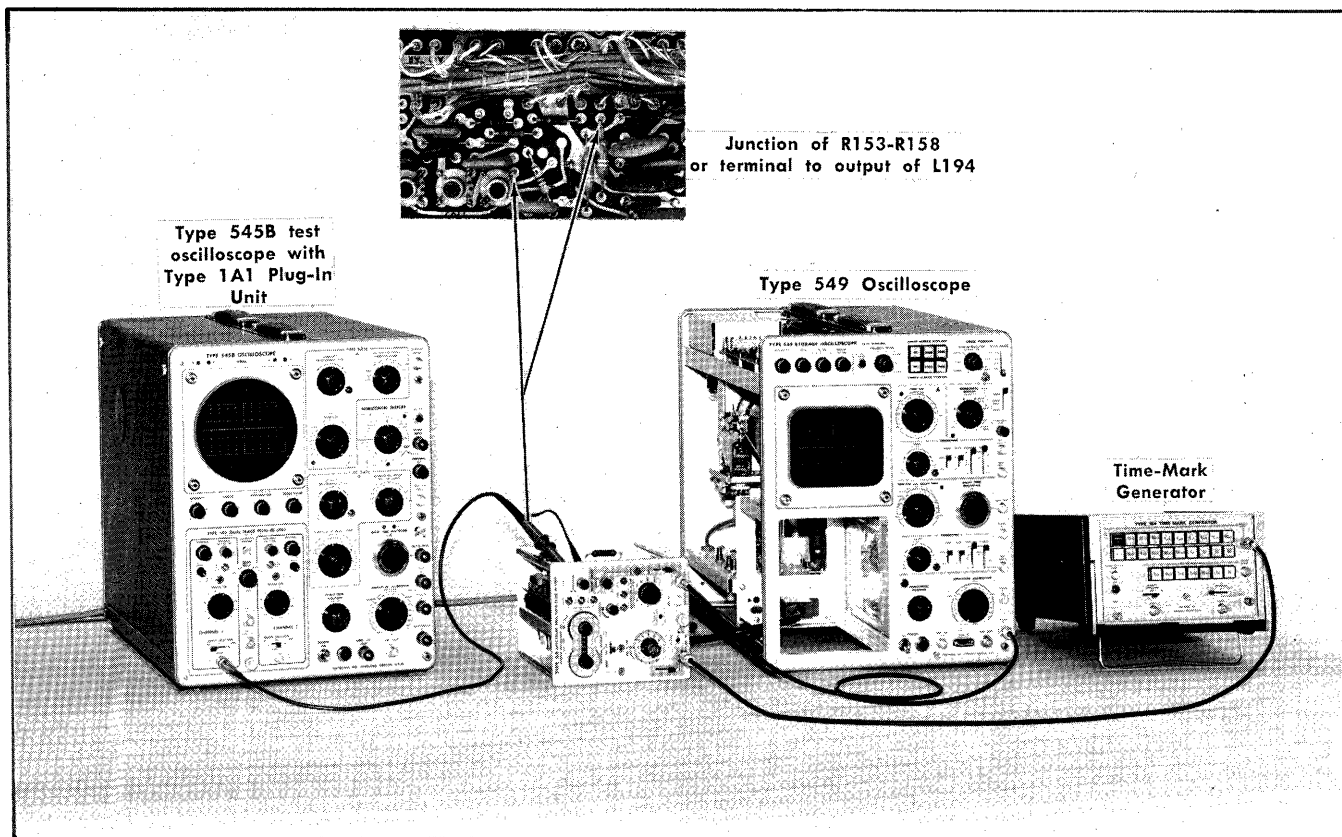

Fig. 6-3. Equipment setup for preliminary sweep oscillator and center frequency adjustments.
1. Pre-set Dispersion, Adjust 3MHz filter ① 2nd Local Oscillator and Mixer
a. Equipment setup is shown in Fig. 6-3.